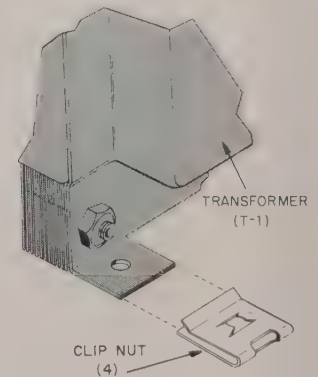

FIGURE 29. MOUNTING A CLIP NUT ON T-1
- ☐ Power transformer T-1. Attach four clip nuts to the transformer feet as shown in Figure 29.